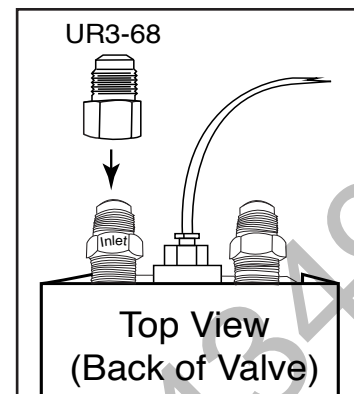

Fig. 2 Installing UR3-68 to the inlet or outlet side of gas valve
This valve kit is supplied with a (UR3-68) adapter that provides an option to convert the inlet or outlet gas connection from 3/8" flare fitting to a 1/2" flared fitting. Simply thread the UR3-68 on to the inlet/outlet gas flared fitting as shown in Fig. 2.
8. Connect inlet supply line to the 3/8" flare fitting on the gas valve. (If using aluminum tubing use caution not to kink the aluminum tube when bending to attach to the valve). **Note:** Use the UR3-68 adapter (if needed) for inlet or outlet gas supply as shown in Fig. 2.
5. Bend inlet gas supply line and connect the 3/8" flare fitting to 3/8" inlet connector on the valve kit (Use caution not to kink the aluminum inlet line when bending to fit to the valve). **Note:** Use the UR3-68 adapter (if needed) for inlet or outlet gas supply as shown in Fig. 2.